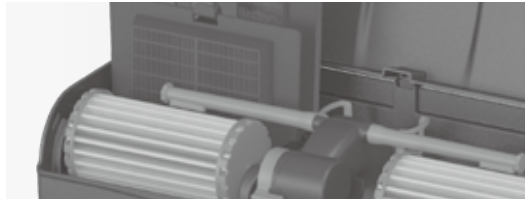

Fig. 1
- 2 Rinse the cartridge** in clean, room temperature water that has been treated with a water conditioner to remove chlorine (this will extend the life of your carbon). Ensure the cartridge and BIO-Wheel® are secured in their place (Fig. 1).